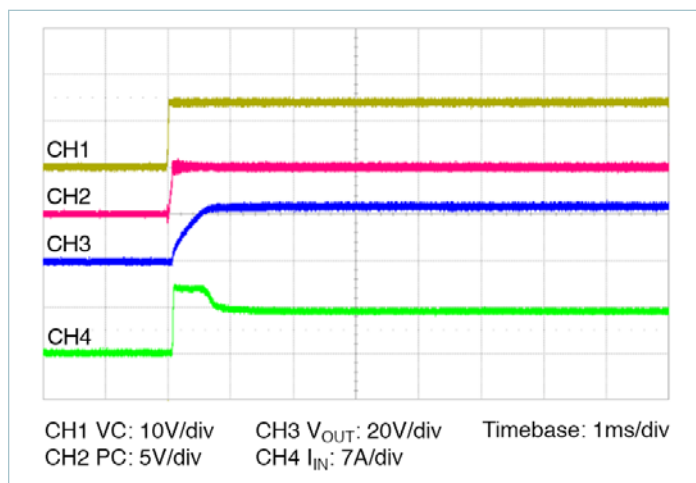

Figure 14 — Start up from application of V_C ; V_{IN} pre-applied $C_{OUT} = 375\mu\text{F}$
- **Stand-alone operation (VC applied after V_{IN}):** In this case the VTM output will begin to rise upon the application of the VC voltage (See Figure 14). The Adaptive Soft-Start Circuit may vary the output rate of rise in order to limit the inrush current to its maximum level. When starting into high capacitance or a short, the output current will be limited for a maximum of 1200μs. After this period, the Adaptive Soft-Start Circuit will time out and the VTM module may shut down. No restart will be attempted until VC is re-applied or PC is toggled. The maximum output capacitance is limited to 375μF in this mode of operation to ensure a successful start.